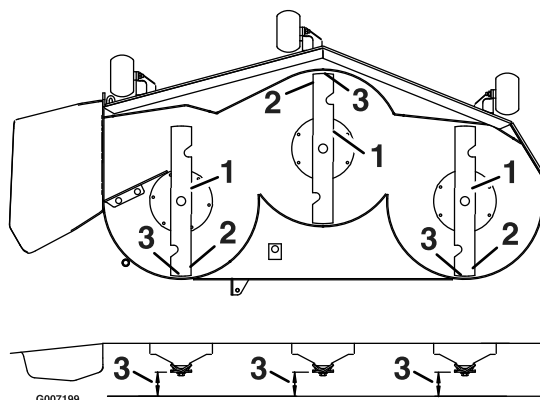

Figure 46
8. Carefully rotate the blades so they are facing front to rear (Figure 46).
9. Measure from the tip of the front blade to the flat surface and the tip of the rear blade to the flat surface (Figure 46). If the front blade tip is not 1/16-5/16 inch (1.6-7.9 mm) lower than the rear blade tip, adjust the front deck hanger.